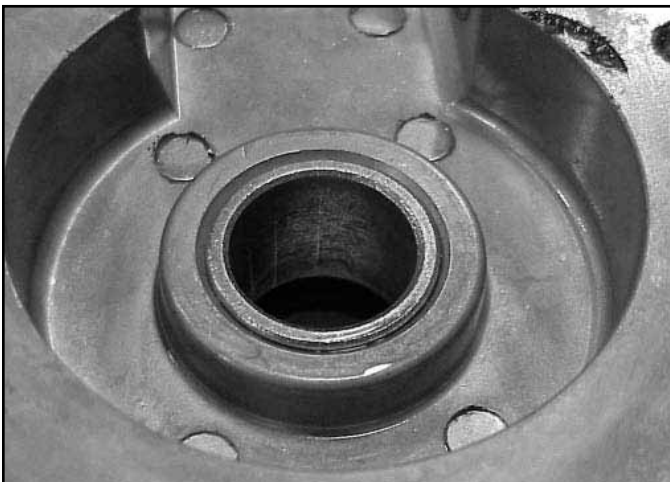

Fig 093
2. If new bushings are to be installed in the gear case halves, now is the time. Apply a thin coat of Loctite Blue #242 or equivalent to the **OUTSIDE** of the bushing and press in flush with the **INSIDE** of the case (Fig. 093). This will allow space for the seal on the outside. Wipe up any Loctite that is visible. The Loctite must not get into the gear or seal area.